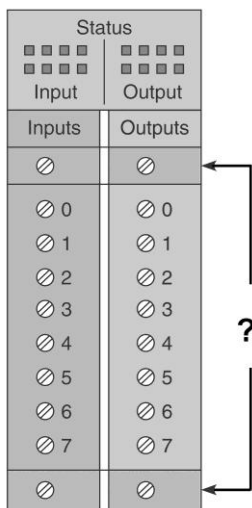

Figure 2-1 I/O module for question 22.
22. For the I/O module of Figure 2-1, the arrows point to the 22. _____